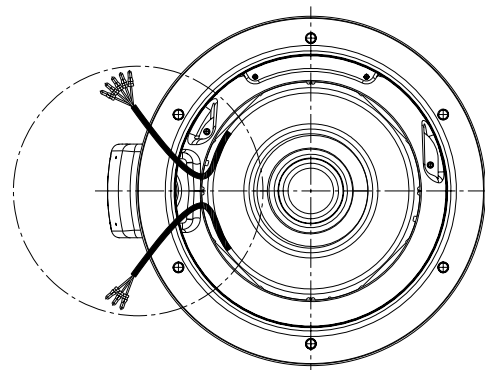

Fig. 11 Stator wire position inside stator housing
4. Place the stator housing on top of the stator. Make sure that the cable entry is turned in same direction as where the wires leave the stator. See fig. 11.